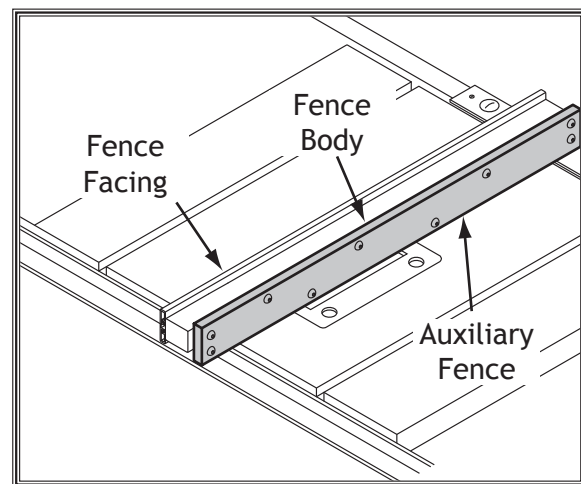

Figure 60. Example illustration of an auxiliary fence installed.
4. Use the mounting hardware you removed in **Step 2** to attach the auxiliary fence. The end result should be similar to **Figure 60**.